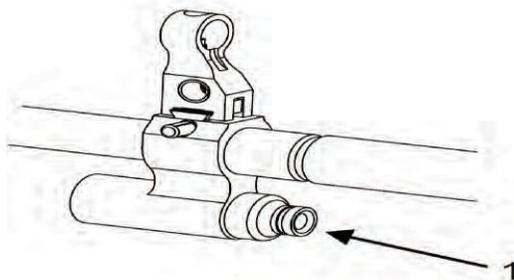

Figure 4. Mono-Block Barrel.
Check for caked carbon on the internal and external surfaces of the outlet of the mono-block barrel (Figure 4, item 1). Clean as required.